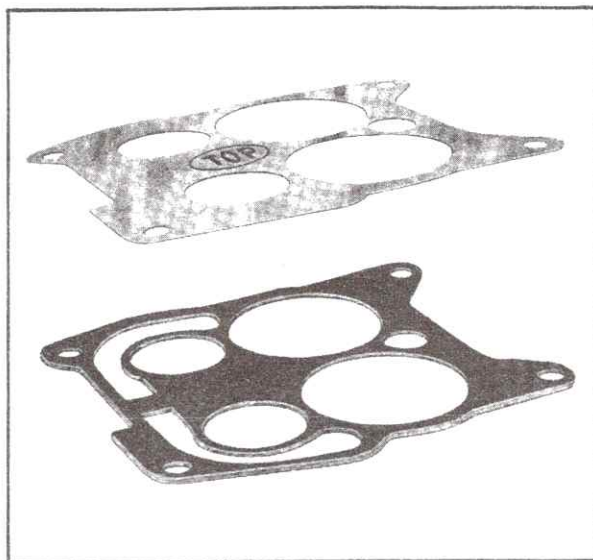

Fig. 6-104 Carburetor Gasket and Shim
2. Place new carburetor gasket on top of manifold with side marked "top" facing up, Fig. 6-104.